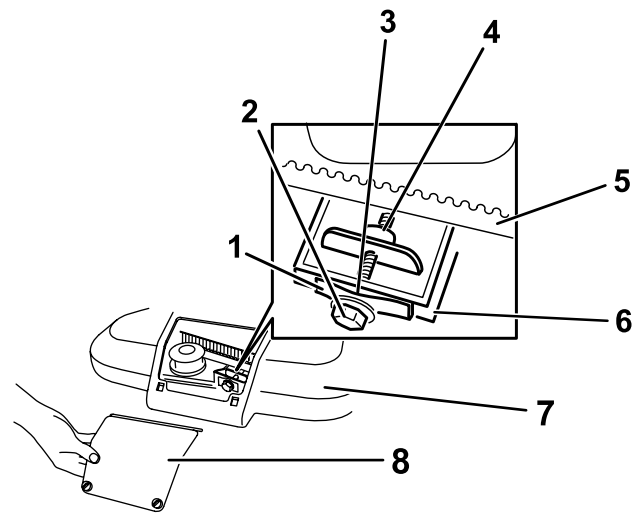

Figure 31
1. Loosen the 2 quarter-turn fasteners on the belt-cover-access panel and remove the panel (Figure 31).
Note: If there is a visible gap between the gauge and the spring, tighten the adjusting bolt and the nut until the feeler gauge barely slides freely in and out of the gap (Figure 31).